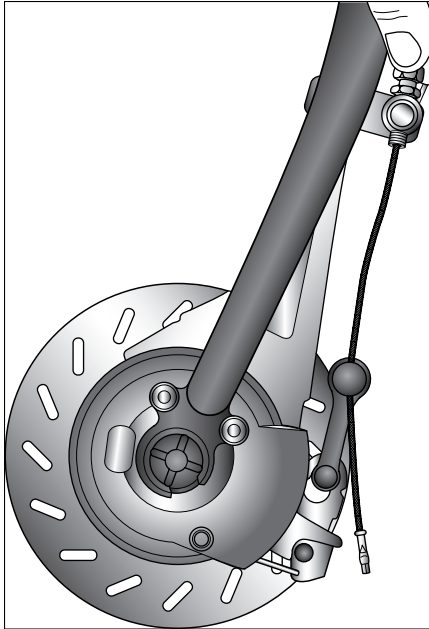

Figure 8-4:
- ✓ **Disk brakes:** Squeezing the brake levers on disc brakes (see Figure 8-4) causes the brake pads to squeeze against a metal disc that surrounds the hub. There are two main types of disc brakes — mechanical and hydraulic. Mechanical disc brakes utilize a cable to actuate the brake pads, whereas hydraulic brakes use a brake fluid pushed down by a piston through a brake line to generate braking power. Both types work well in both dry and wet conditions, and they're quite responsive, requiring less effort from the hand when braking. The advantage of disk